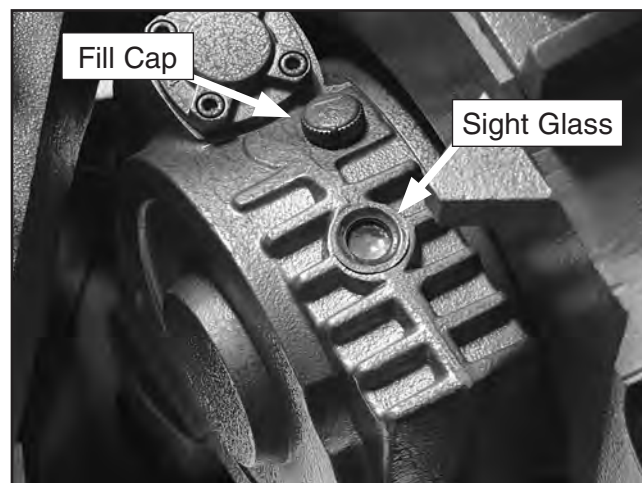

Figure 36. Gear box.
6. Open the fill cap and fill the gearbox with oil until you see the oil level reach the halfway point in the sight glass (see **Figure 36**).